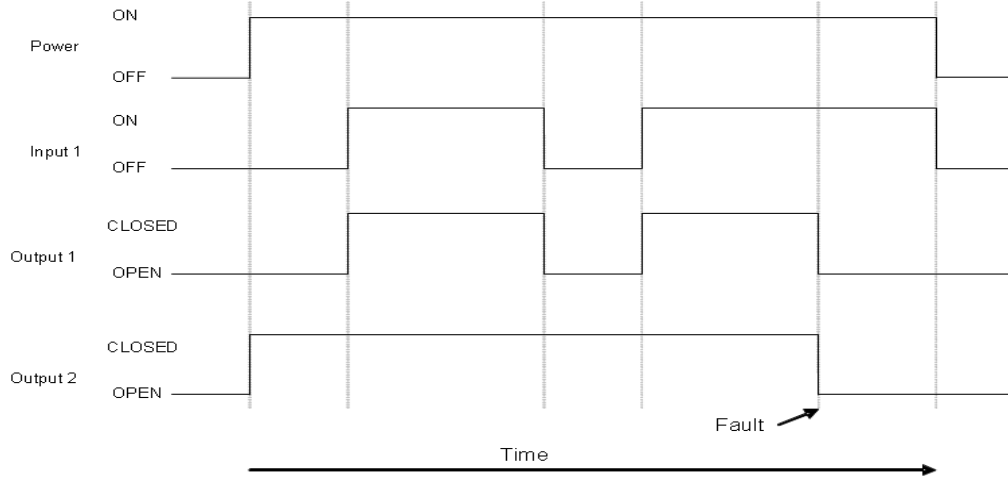

Figure 3 – Timing Chart for (DIP6=OFF/DIP7=ON)
- The Motor Efficiency Controller has two (2) discrete Normally Open relay outputs. The two outputs are controlled at terminals OUT 1 and OUT 2.
- See figure 3 for the timing diagram for the outputs when configured at the factory defaults of: